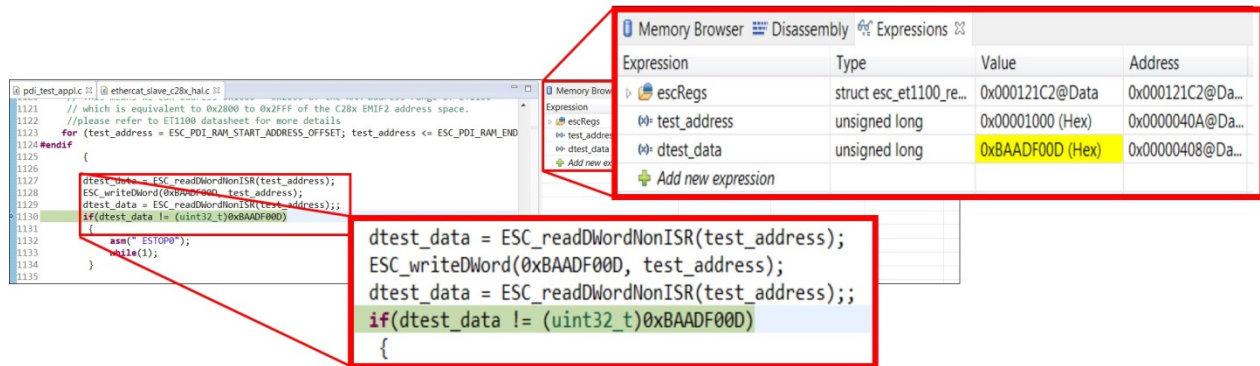

Figure 38. CCS Project Write to EtherCAT Slave
6. Figure 38 shows program control after execution of the first 32-bit write and 32-bit read from PDI to ET100 address 0x1000.